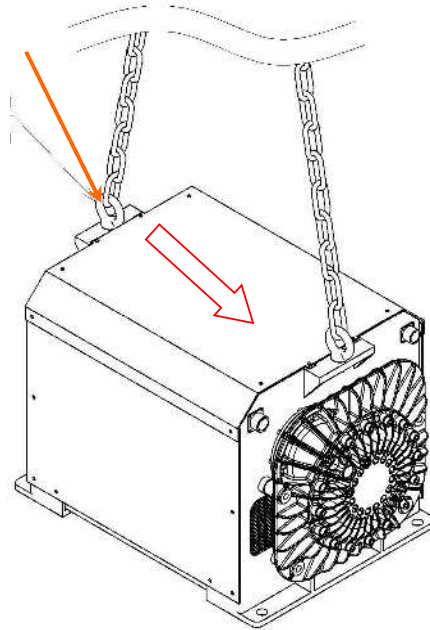

Figure 4-4 Installation direction of eyebolts
- Eyebolts are tightened in correct direction as shown in Figure 4-4.